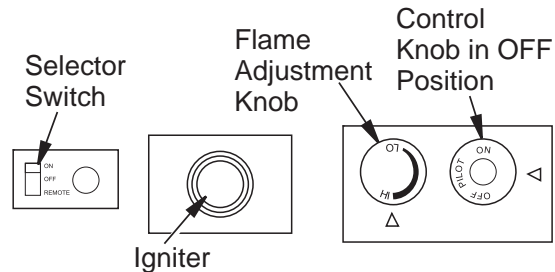

Figure 53 - Control Knob, Igniter Button and Remote Selector Switch
5. Wait five (5) minutes to clear out any gas. Then smell for gas, including near the floor. If you smell gas, STOP! Follow "B" in the safety information, column 1. If you don't smell gas, go to the next step.
6. Press in and turn control knob counterclockwise ↺ to the PILOT position. Press in control knob for five (5) seconds (see **Figure 53, Page 27**).
After lighting, let pilot flame burn for about one minute. Turn control knob to ON position. Adjust flame adjustment knob anywhere between HI and LO. Slide the selector switch to the REMOTE position (see Figure 53).